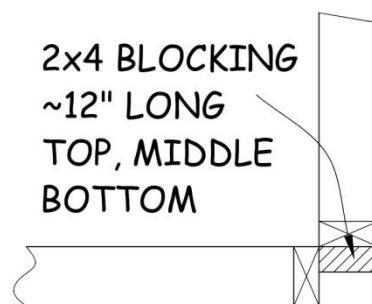

Figure 6-4. Basement Exterior Wall Corner.
2. Start by laying out the exterior walls. Where exterior walls meet, abut the corners of the end studs, and nail or screw blocking to the end stud of one wall (see Figure 6-4). Plumb both walls, and nail the non-blocked stud into the blocking to secure the wall.